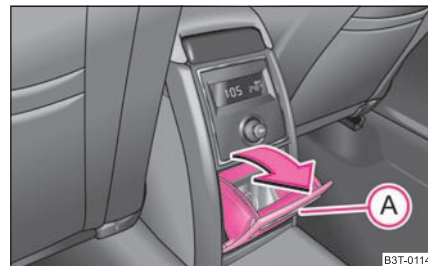

Fig. 101 Centre console at rear: Storage compartment
- Open the storage compartment by pulling at the handle (A) in direction of arrow ⇒ page 91, fig. 101.